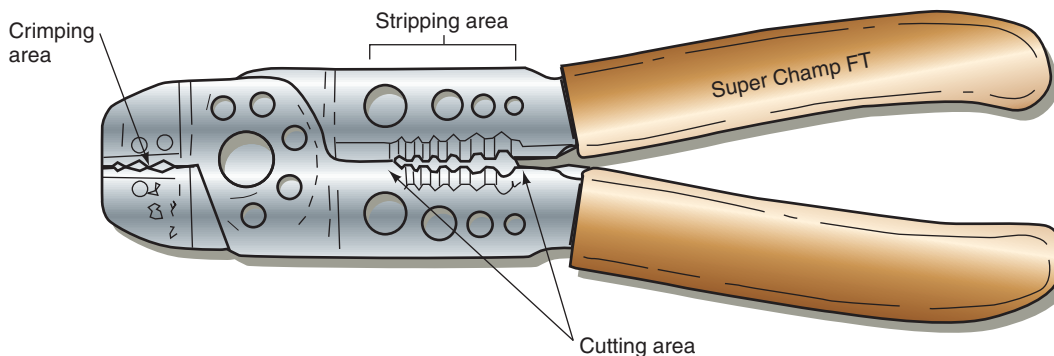

FIGURE 4-3 A typical crimping tool used for making electrical repairs.
1. Use the correct size of stripping opening on the crimping tool to remove enough insulation to allow the wire to completely penetrate the connector. The crimping tool has different areas for performing several functions (Figure 4-3). This single tool will cut the wire, strip the insulation, and crimp the connector.